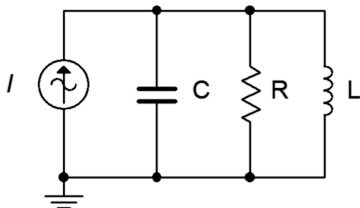

Figure 3.23
40. Determine a value for L such $|X_C| = |X_L|$ for the circuit shown in Figure 3.23. The source frequency is 22 kHz, $R = 18\ \text{k}\Omega$ and $C = 5\ \text{nF}$.
45. Assume you are troubleshooting a circuit like the one shown in Figure 3.23. I is a 10 mA peak sine at 2 kHz, $R = 390\ \Omega$, $C = 200\ \text{nF}$ and $L = 25\ \text{mH}$. The measured resistor voltage is a little under 2.5 volts. What is the likely culprit?
46. Given the circuit shown in Figure 3.23, find the values for C and L if the source is a sine wave at 1 kHz, $R = 4\ \text{k}\Omega$, $i_{\text{Source}} = 3\ \text{mA}$, $i_R = 2\ \text{mA}$, $i_L = 5\ \text{mA}$,
54. Following the idea presented in the previous problem, investigate the impedance as a function of frequency of the circuit shown in Figure 3.23. Use $R = 1 \text{ k}$, $C = 10 \text{ nF}$, and $L = 1 \text{ mH}$. Run the simulation from 100 Hz to 10 MHz. Make sure to sketch your expected results first.